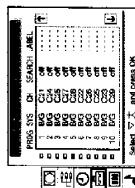

Fig. 22
- The MANUAL PROGRAMME PRESET menu appears. (See Fig. 22)